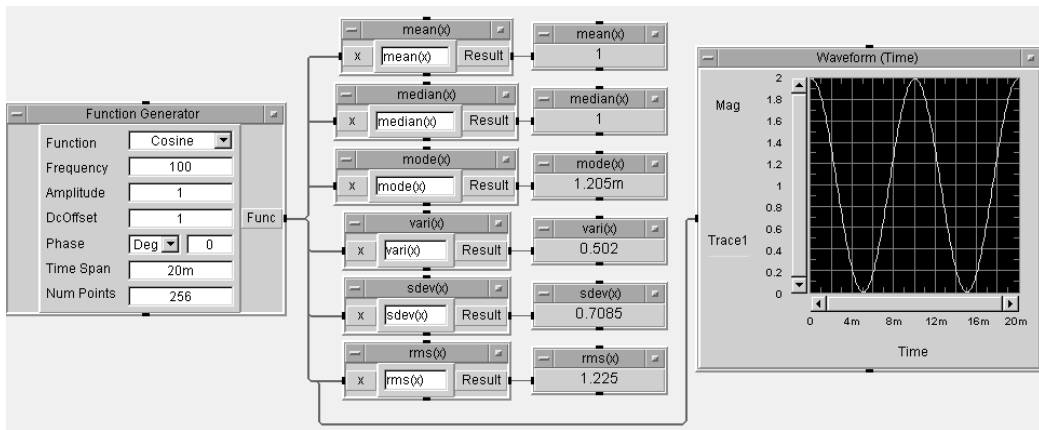

Figure 6.10. Calculating statistical parameters
14. Run your program. It should look like Figure 6.10.